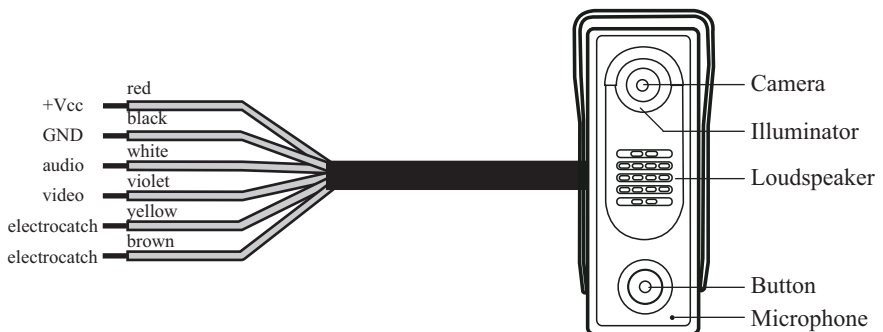

Figure 2. BVC-6501 external panel
- Connect the wires in accordance with the diagram. A cable with colour wires (see Figures 2 and 5) is located in the external panel. Connect those wires with the wiring of the video door phone using a soldering iron, protecting the joint with shrink wrap or insulation.